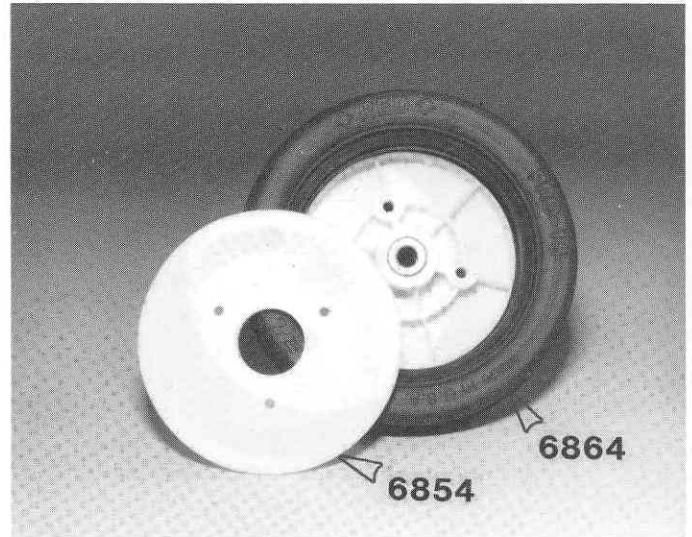

Fig. 192
□ **Fig. 192** Take the inside half of the front wheel, as shown, and push it into the front tire making sure it is seated all the way around, and centered perfectly.